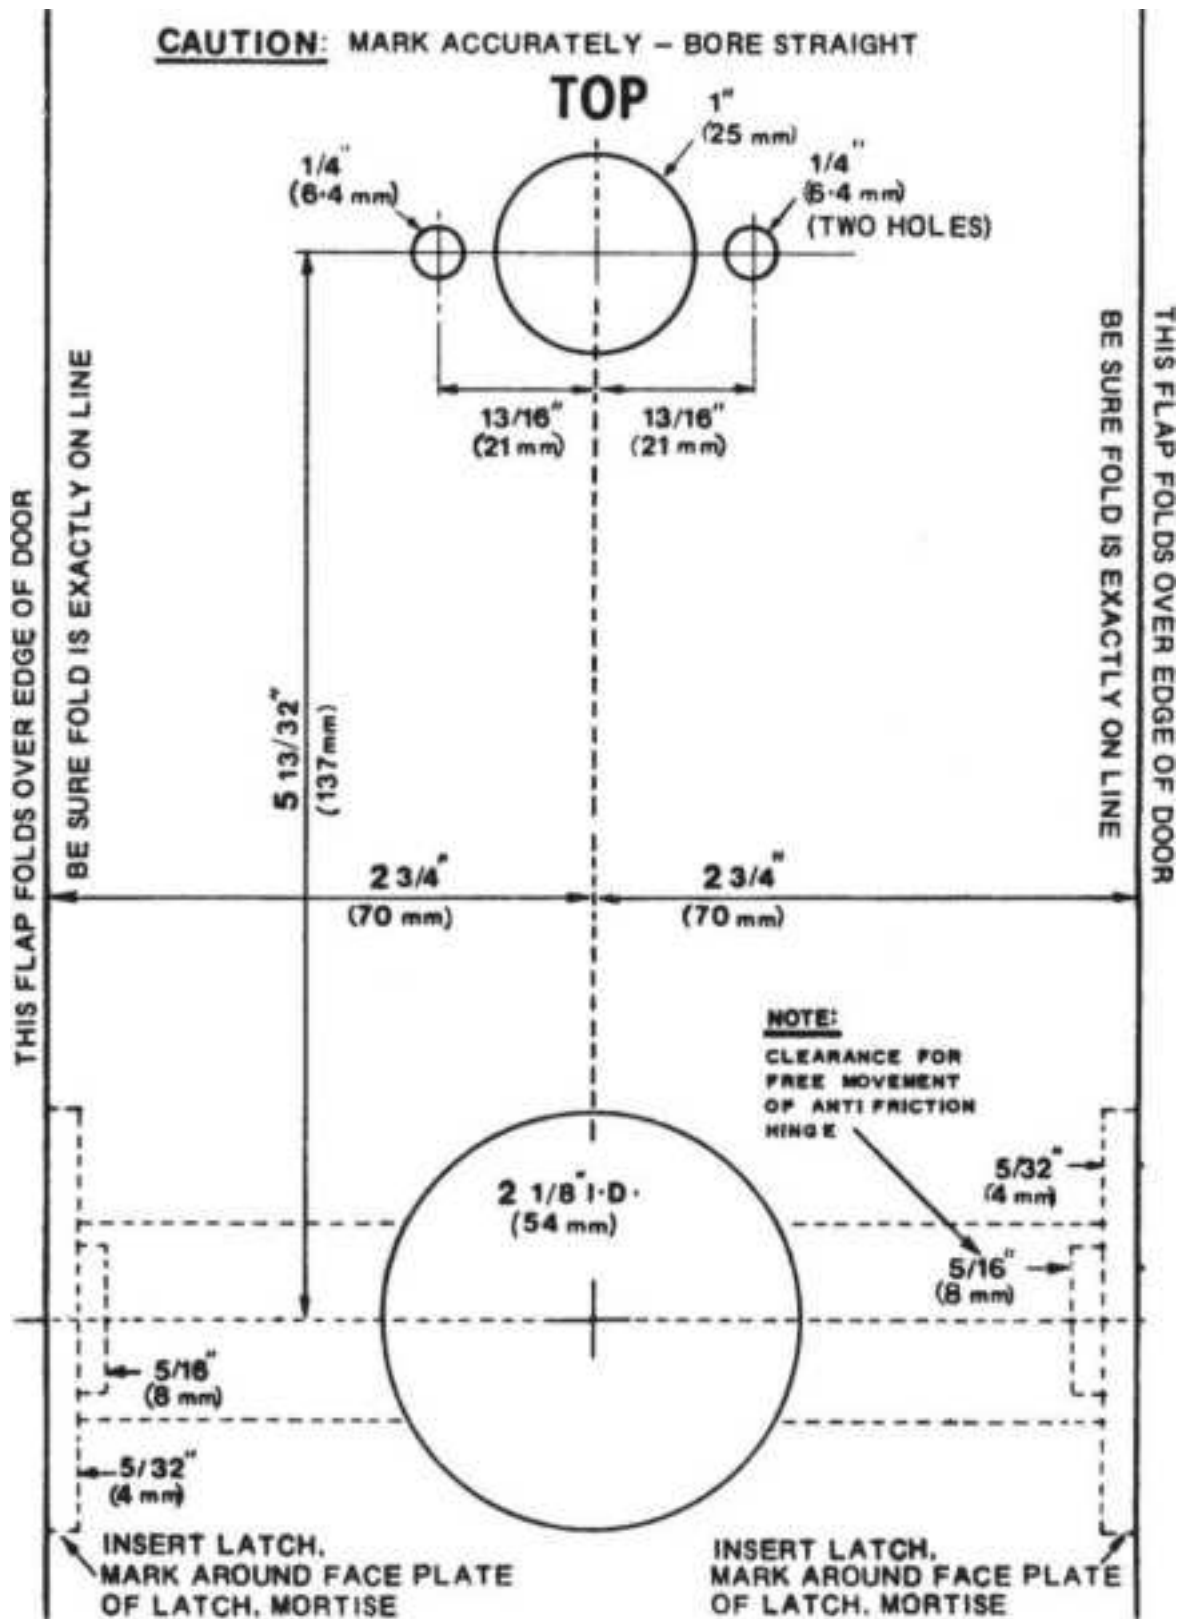
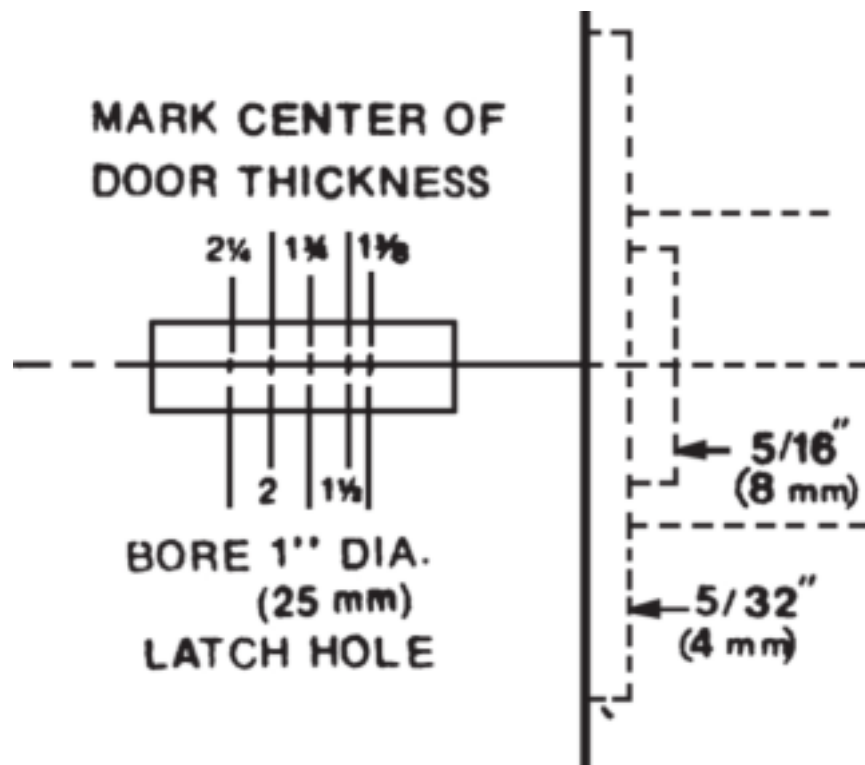
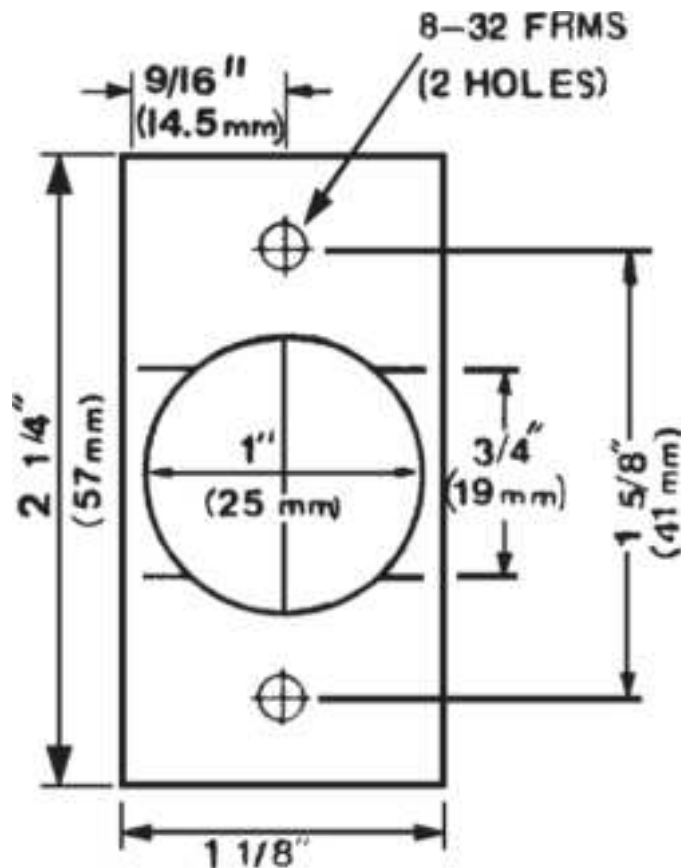

**Figure 18.30** Unican 1000 door template. (*Simplex Access Controls Corp.*)
**Figure 18.31** Unican 1000 template portion for marking a door thickness.
**Figure 18.32** Unican 1000 latch cutout specifications. (*Simplex Access Controls Corp.*)
***The template.*** Before starting the actual installation procedures, let's look at a portion of the Unican 1000 three-part template that will be used. (Figure 18.30 shows the template and proper dimensions; Fig. 18.31 shows the door edge portion of the template.) Figure 18.32 provides the information and specifications for the latch cutout required. *Caution:* When using this type of template, always apply the template and drill from the outside, being sure to compensate for the door bevel, if any (Fig. 18.33 ).